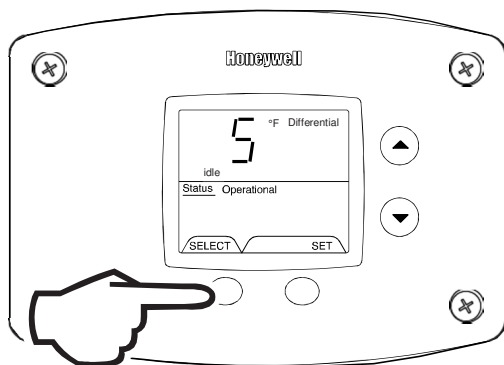

Figure 36
6. Differential (Display only – shows the differential of the thermostat) (Fig. 36).